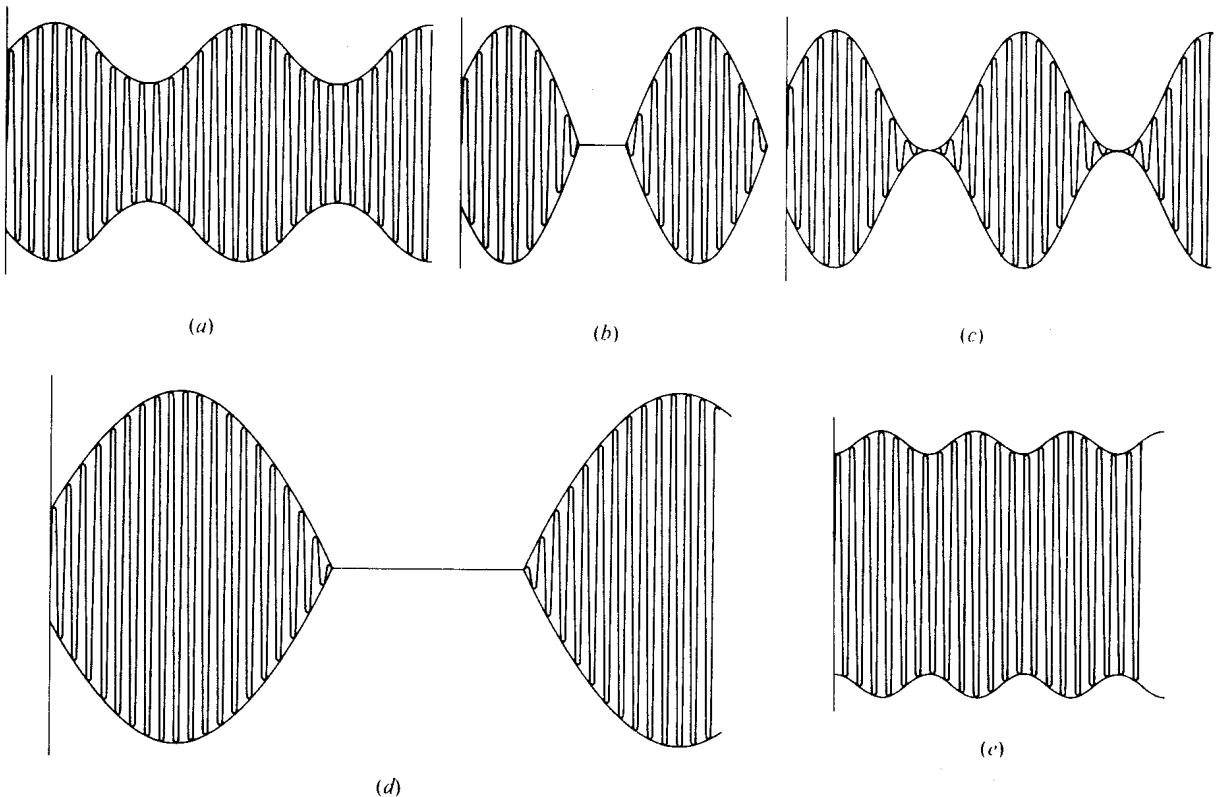

Fig. 3-21
3.23 Which of the AM waves in Fig. 3-21 depicts undermodulation? 100% modulation? overmodulation?